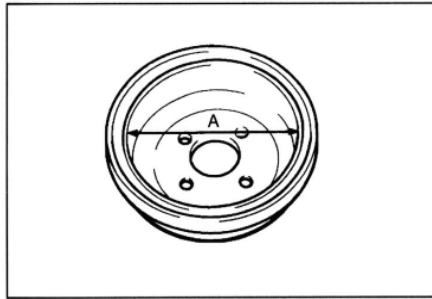

Fig. 16-24
- (1) Remove brake drum
- (2) Measure brake drum inner diameter at 2 place or more(see Fig. 16-24)